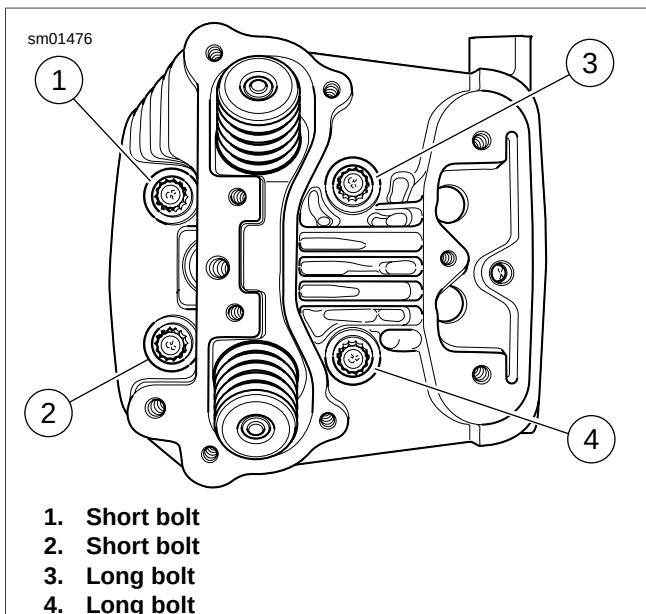

Figure 3-45. Front Cylinder Head Screw Loosening/Tightening Sequence (typical)
See Figure 3-45 or Figure 3-46. To avoid distortion of the cylinder head, cylinder and crankcase studs, gradually loosen (or tighten) head screws in the sequence shown.
2. See Figure 3-45 and Figure 3-46. Loosen each head bolt 1/8-turn following the sequence shown.